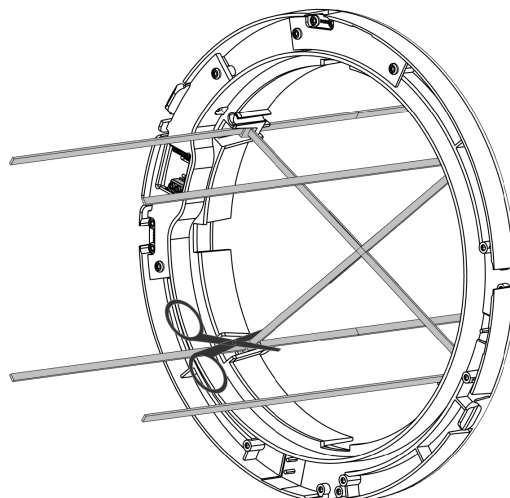

Figure 23 - Bend and cut the "mounted" strips
4. With scissors or a knife, cut each of the loose strips as close to the head as possible, see Figure 23.